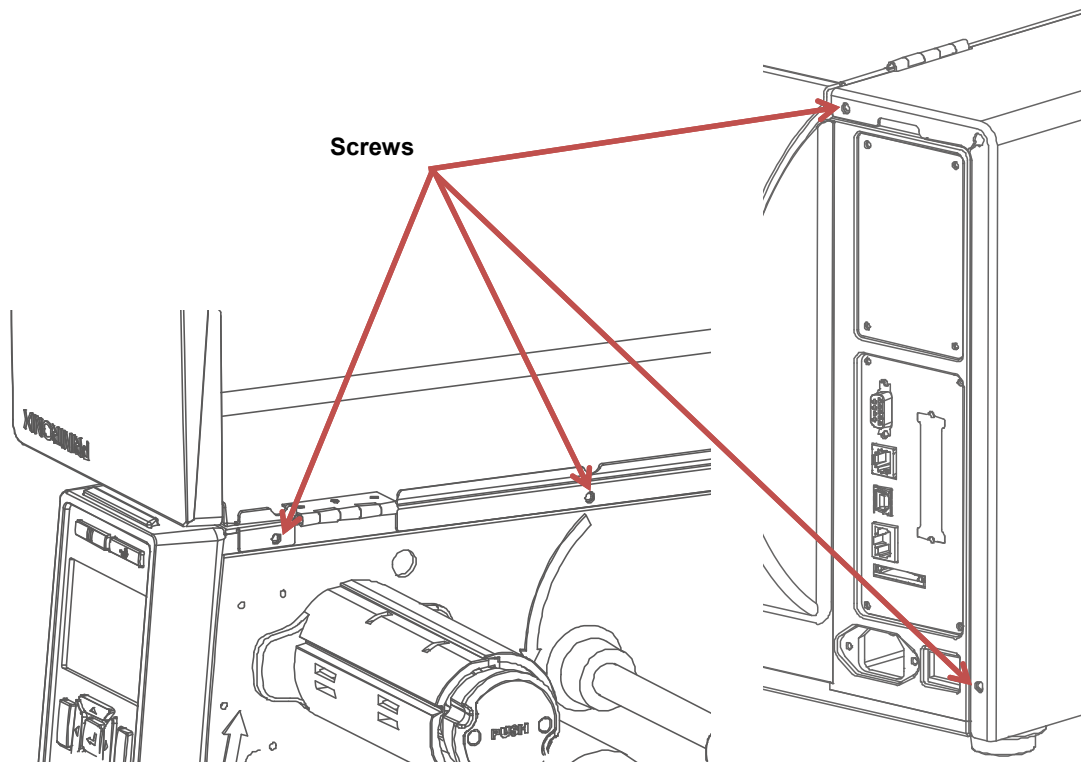

Figure 2 Removing Side Cover (T6)
1. Open the media cover and remove two screws on the inside of the printer as shown in Figure 2.